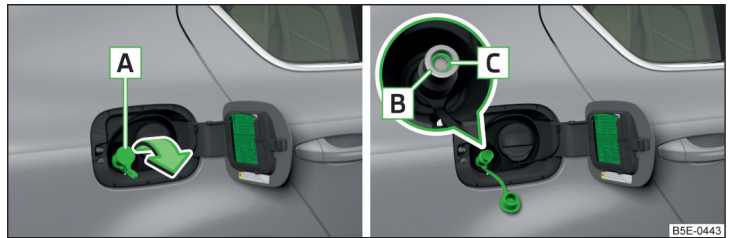

Fig. 311 Natural gas filler tubes
- › Remove cap **A** » Fig. 311 in the direction of the arrow and insert connector for the refuelling system into filler neck **B**.
- › Check that sealing ring **C** » Fig. 311 has remained inserted in filler neck **B**. If the sealing ring has slipped on the connector, reinsert it into the filler neck.